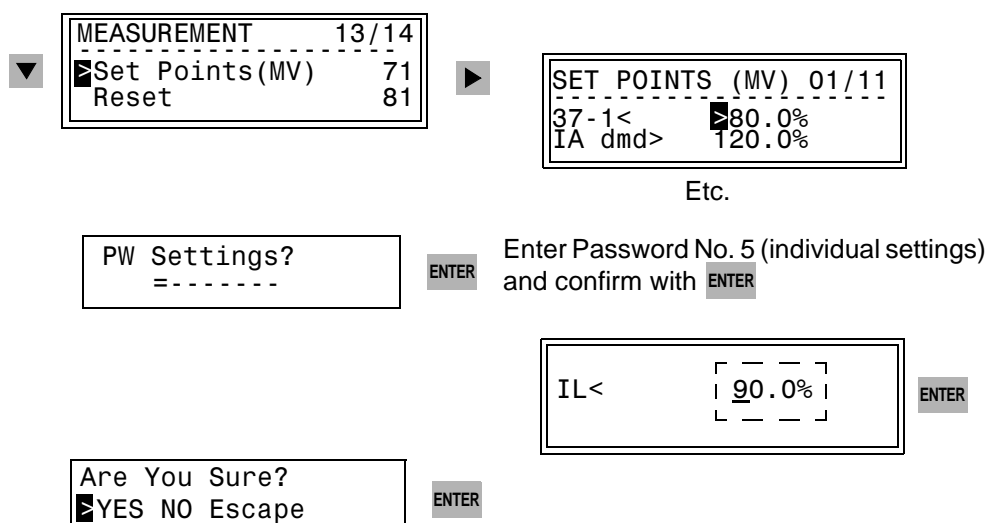

Figure 7-26 Setting Limit Values at the Front Panel — Example
There, select the menu item **Set Points (MV)** with the ▼ key, and switch to the list of limit values using the ▶ key (see Figure 7-26).
Upon leaving this level using the or , the safety inquiry “Are you sure?” appears, with the default answer “Yes” (Figure 7-26). Confirm with the key if the value should become effective. If a change to the value is not desired, press the key so that the answer “No” is marked, and confirm this with the key. To correct the value, mark “Escape”, confirm this with the key, and enter the value again